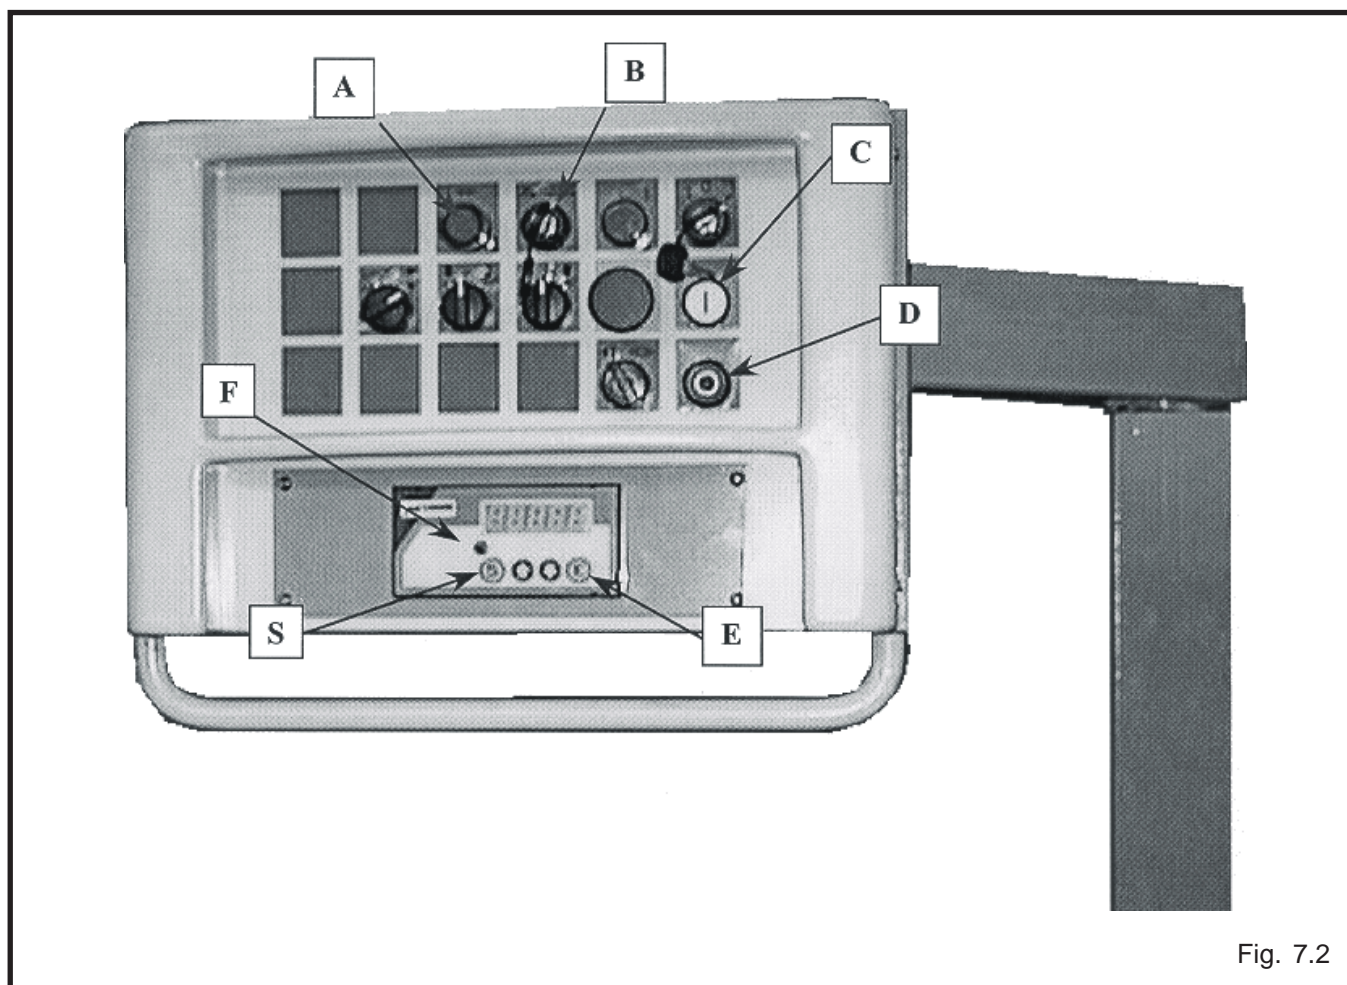

Fig. 7.2
3.1.3 QUADRO COMANDO CON INVERTER (Optional) fig. 7.2
3.1.3 Control panel with inverter (Optional) fig. 7.2
3.1.3 TABLERO DE MANDOS CON INVERTER (Opcional) fig. 7.2